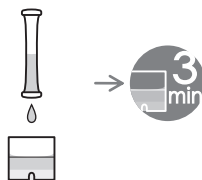

Fig.3
3. Return the sample into the cell, and And let it sit for 3 minutes. (Fig.3)